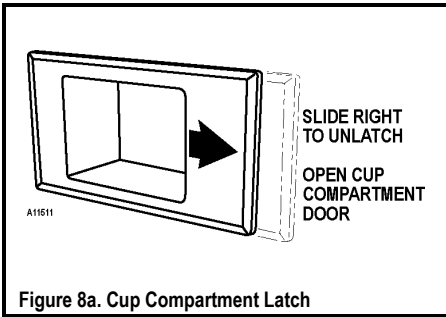

Figure 8a. Cup Compartment Latch
1. Unlock the cup compartment door by sliding the plastic latch to the right. See **Figure 8a**. Open the cup compartment door.